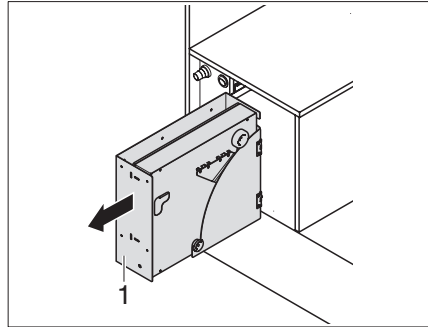

Fig. 74 Extending the pull-out gas cooker
- ▶ Pull out the pull-out gas cooker (Fig. 74,1) until the latch engages.